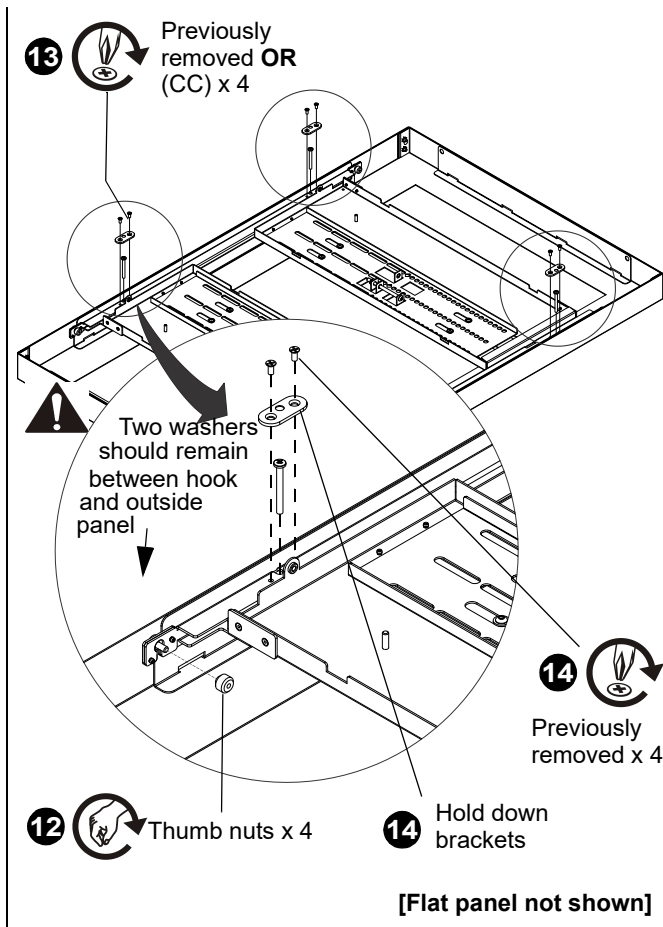

Figure 15
**NOTE:** The outer cover depth may be adjusted between 3" - 5" to make room for a variety of different flat panel thicknesses. (See Figure 15)
- The 4 Phillips screws removed in Step 1 can be replaced with four 10-24 x 3-1/2" Phillips screws (CC) for larger depth adjustments.
12. Tighten thumb nuts over threaded studs in four locations on the hinged frame. (See Figure 15)
13. Replace and fasten four Phillips screws which were removed in Step 1, OR replace the removed screws with four 10-24 x 3-1/2" Phillips head screws (CC) to allow for a larger depth adjustment of the outer frame. (See Figure 15)